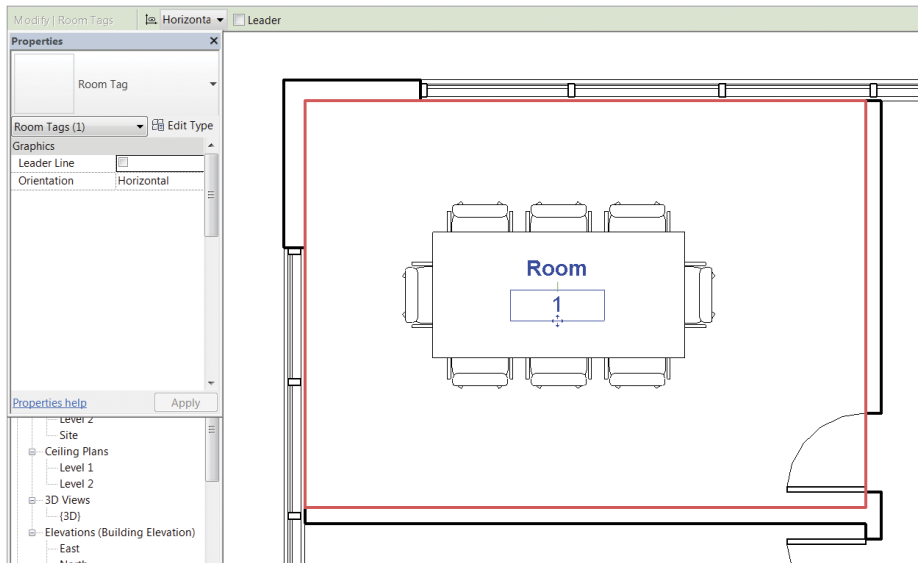

FIGURE 8.4 Room tag
3. Click to place a room in the upper-left space on the Level 1 floor plan. Notice that the default room tag indicates only the room name and number (Figure 8.4), but more options are available.